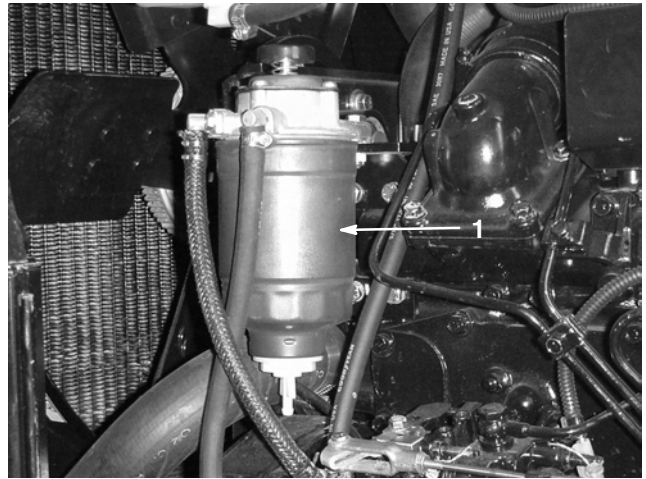

Figure 42
1. Locate the fuel filter/water separator near the fan on the left side of engine and drain the water chamber daily (Fig. 42).
2. Every 400 hours operation, or yearly, replace the filter element in the fuel filter/water separator (Fig. 42) and drain water from the fuel tank. Apply clean fuel to the filter O-ring. Use hands only to install and tighten filter.